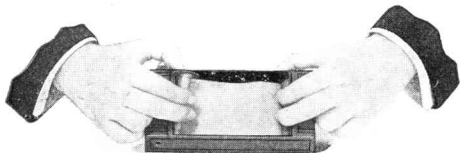

FIG. 5
4. The camera may now be loaded by first unrolling about four inches of the red paper and then placing the two spools into the film pockets at each end of the instrument. Fig. 5.